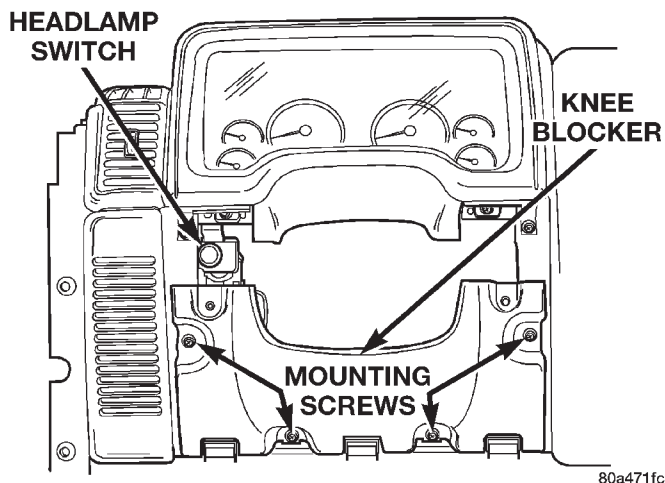

Fig. 4 Knee Blocker Remove/Install
(1) Disconnect and isolate the battery negative cable.
(2) Remove the steering column opening cover from the instrument panel. Refer to **Steering Column Opening Cover** in the Removal and Installation section of this group for the procedures.
(3) Remove the four screws that secure the knee blocker to the instrument panel (Fig. 4).